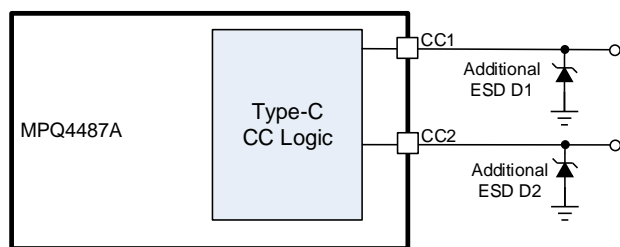

Figure 10: Recommended CC Pins ESD Enhancing
14) See Figure 10 on page 24 for the CC pins' ESD protection enhancing details.